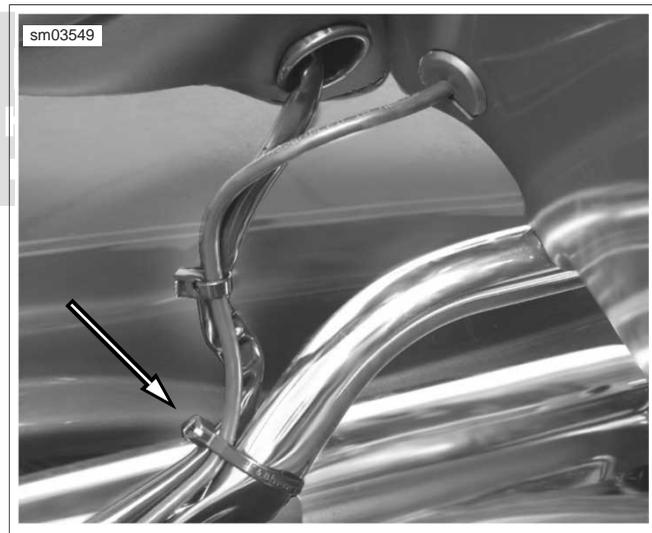

Figure 2-120. Right Side Luggage Rack Rail (FLHTCU)
10. Verify that wire harness to Tour-pak is not bunched or stretched at any point. Rearrange wire harness slightly if necessary. Install **new** cable straps capturing wire harness and luggage rack rails if rearrangement required cutting of existing cable straps. See Figure 2-120.